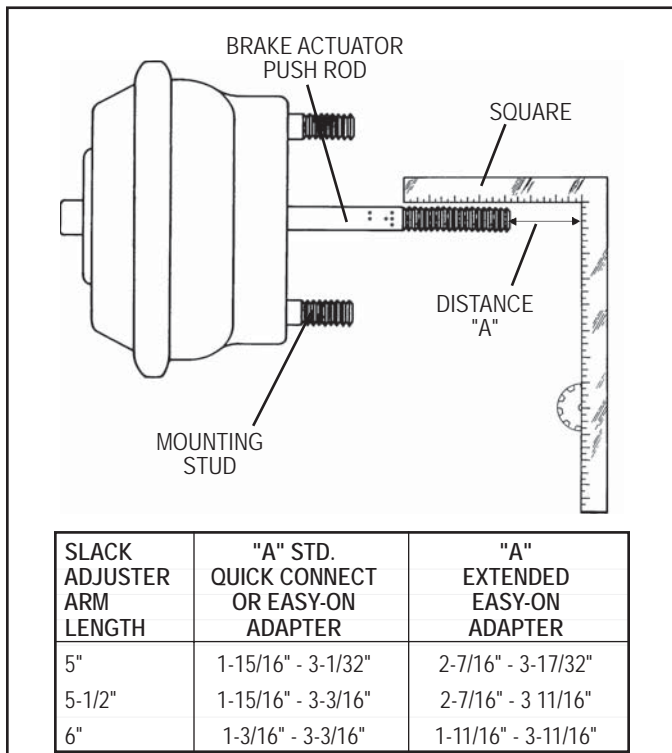

FIGURE 5 - MEASURING THE BRAKE ACTUATOR PUSH ROD
- A. With the brake chamber in the released position, place a square (or equivalent object) so that one edge is parallel to the actuator push rod while the other edge bisects the brake camshaft. Measure the distance from the push rod end to the vertical edge of the square and compare it to the values in Figure 5.
- B. If the measurement is less than the minimum shown in Figure 5, the brake actuator push rod must be shortened. If the measurement is greater than the maximum values, the brake actuator push rod may require replacement. The extended adapter, available as a separate service part (5/18"-18 pc. no. 297700 and 1/2"-20 pc. no. 297701) may avoid the need to replace the brake actuator push rod. The extended adapter is available for the easy-on yoke assembly only. Note: Installing any other type of push rod extender is not recommended, because these devices may loosen over time and result in an improperly adjusted brake.